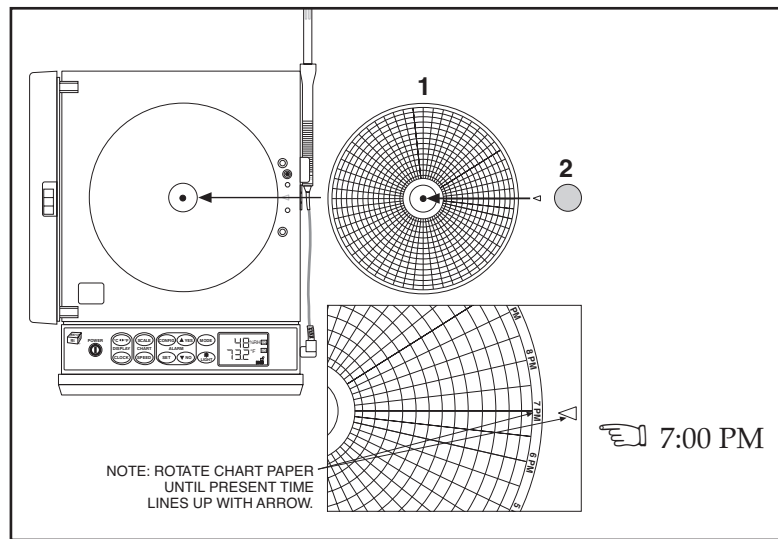

Figure 2-8. Changing Chart Paper and Setting the Time
- Rotate the paper, until the present time lines up with the Time reference arrow as shown in Fig 2.8.